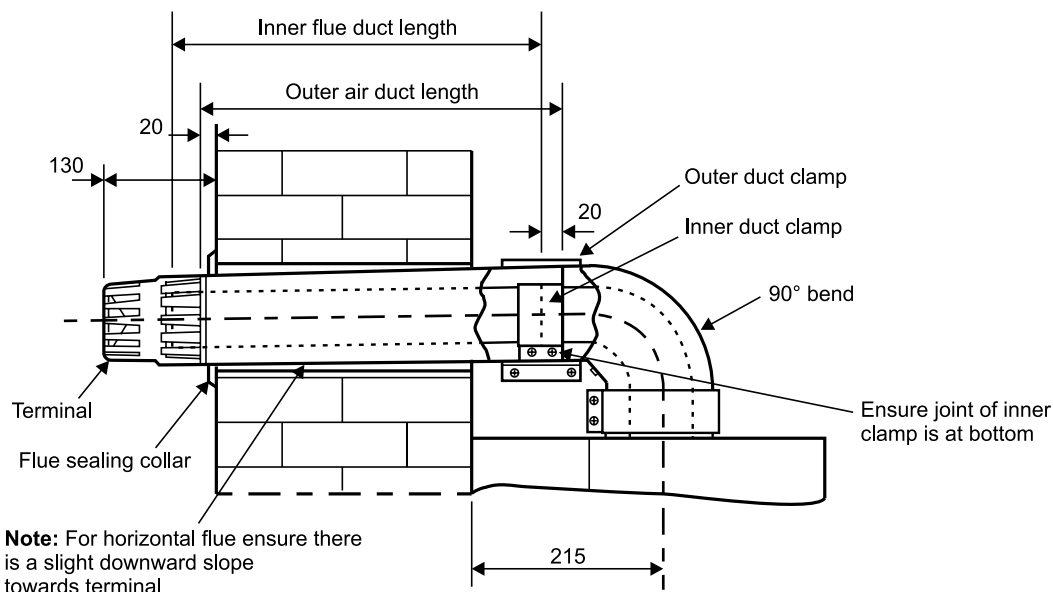

Fig. 12 - Rear flue
4.6 FIT THE FLUE - Figs. 12, 13
- Mark the outer air duct to match the length given above, measure from the end of the tube as shown in Figs. 12 and 13.
- Position the seal and clamp (two screws), supplied with the bend, over the boiler flue adaptor. Fit the bend and rotate to the correct position, then secure in position. See Fig 12.
- Place the inner (no seal) duct clamp in position over the bend outlet as shown in Figs. 12 and 13, and position the outer duct seal over the bend.
4.7 FIT A FLUE EXTENSION - Figs. 12, 13
5. When measuring the outer duct, measure from the end of the tube as shown in Figs. 12 and 13.